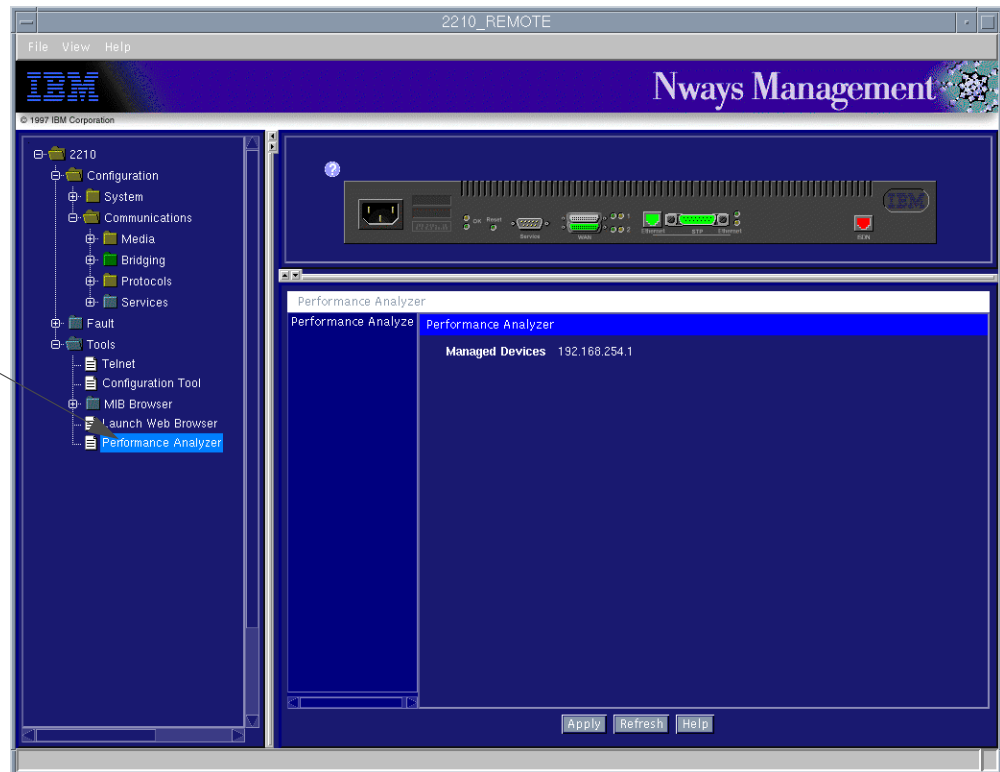

Figure 227. Launching Performance Analyzer from JMA
- Click on **Apply** to start (see Figure 227).